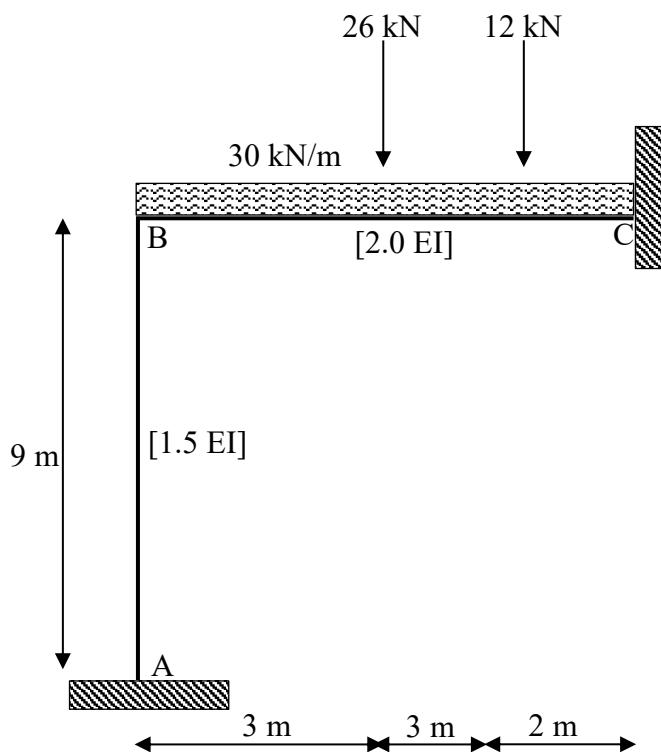

Figure B2 / Rajah B2
The portal frame shown in Figure B2 is a non-swaying portal frame. A frame is fixed at A and C carries a uniformly distributed load and point loads.
- CLO1 (a) Identify the value of Fixed End Moment (FEM) for each member in Figure B2.
- CLO1 (b) Indicate the slope deflection equation for each member Moment Equation by using Slope Deflection Method for Figure B2.
- i. Calculate the final moment at each support in Figure B2.